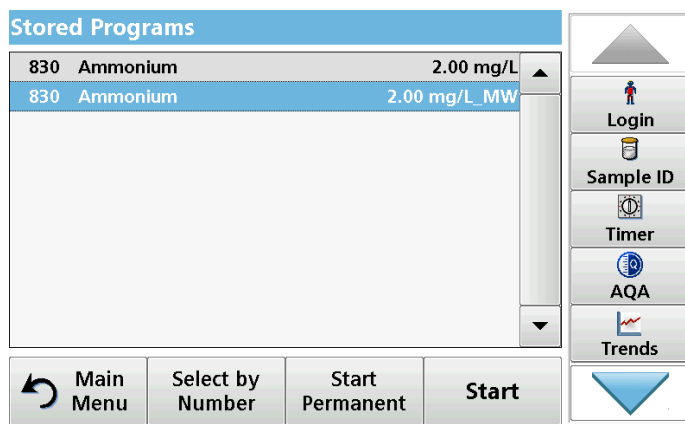

Figure 2: Select multiple wavelength (MW) program
2. Select the method MW (Multiple Wavelength) in the selection box (see Figure 2) and press the Start key.